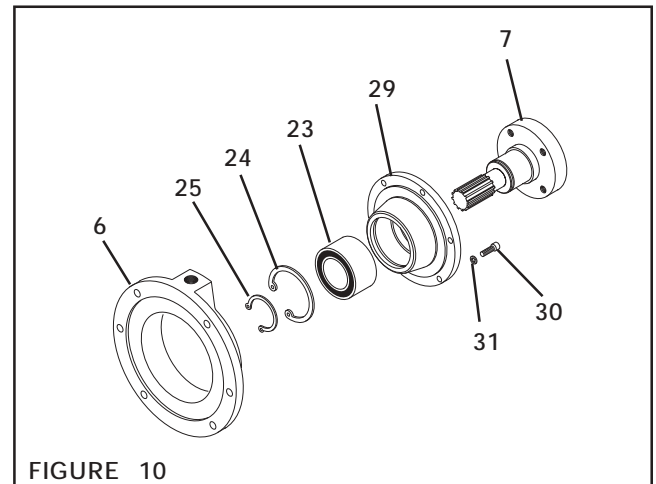

FIGURE 10
1. Remove the six Socket Head Cap Screws (Item 30) and Flat Washers (Item 31); then, slide the Bearing Housing (Item 29) out of the Cylinder Housing (Item 6) (See Figure 10).
2. Remove the Retaining Ring (Item 25) from the Shaft (Item 7) (See Figure 10).
3. Press the Shaft (Item 7) out of the old Bearing (Item 23) and Bearing Housing (Item 29) (See Figure 10).
4. Remove the Retaining Ring (Item 24) from the Bearing Housing (Item 29); then, remove the old Bearing (Item 23) from the Bearing Housing (Item 29) (See Figure 10).
6. Heat the Bearing Housing (Item 29) to 200° F [93.2° C]; then, apply an adequate amount of Loctite® 680 to evenly coat the outer race of the new Bearing (Item 23) (See Figure 10).
7. Carefully align the outer race of the new Bearing (Item 23) and with the bore of the Bearing Housing (Item 29) and press the new Bearing into place (See Figure 10).
8. Reinstall the Retaining Ring (Item 24) to secure the new Bearing (Item 23) into the Bearing Housing (Item 29) (See Figure 10).
9. Fully support the inner race of the new Bearing (Item 23) installed in the Bearing Housing (Item 29) and press the Shaft (Item 7) into the new Bearing (See Figure 10).
10. Reinstall the Retaining Ring (Item 25) to secure the Shaft (Item 7) to the Bearing (Item 23) and Bearing Housing (Item 29) (See Figure 10).
11. Slide the Bearing Housing (Item 29) back into the Cylinder Housing (Item 6) (See Figure 10).
12. Apply a drop of Loctite® 242 to the threads of the six Socket Head Cap Screws (Item 30); then, reinstall the six Screws and Flat Washers (Item 31) (See Figure 10).
13. Alternately and evenly tighten the six Socket Head Cap Screws (Item 30) to 80 In. Lbs. [9 Nm] torque (See Figure 10).